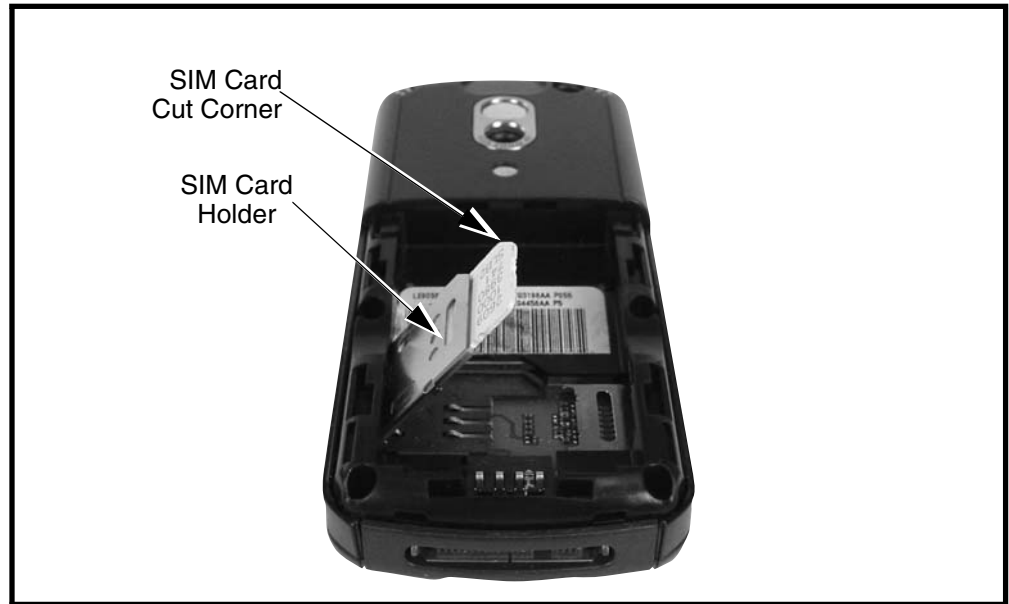

Figure 6. Removing and Replacing the SIM Card
2. Lift the top end of the battery as indicated by the arrow in Figure 6.